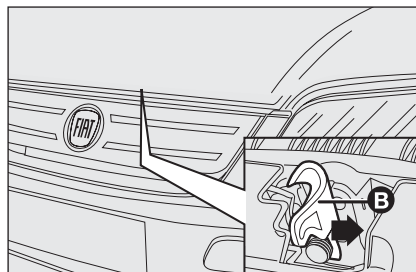

fig. 123
- ☐ move the lever **B**-fig. 123 to the right as shown by the arrow;